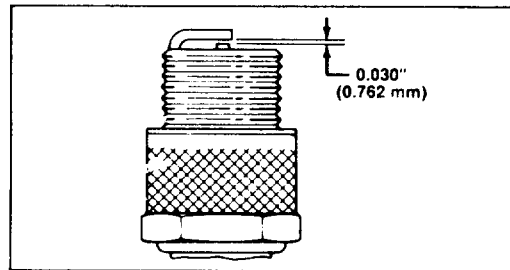

Figure 11
3. Set air gap at 0.030" (0.762 mm) (Fig. 11). Install correctly gapped spark plug and gasket seal. Tighten plug firmly to 18 ft-lb (24.4 N-m).